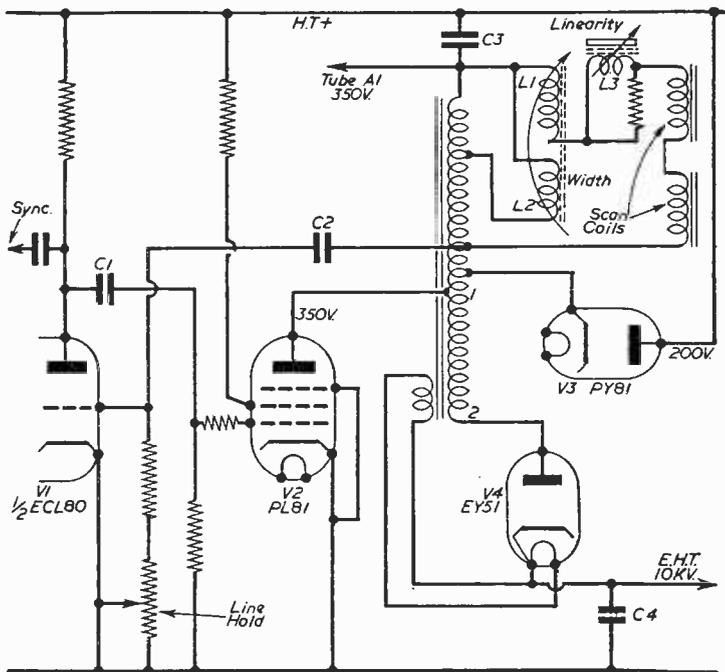

Fig. 26.—Circuit for line flyback EHT.
**L**INE flyback EHT.—Fig. 26. Although we are only to discuss different methods of obtaining EHT it will do no harm to diagnose briefly the whole circuit in Fig. 26 as it is all tied up with the high voltage supply. The scan coil circuit is coupled back to the grid of the oscillator, V1, by C2; this enables part of the output of V2 to be fed back into the oscillator, V1. This pulse is clipped by the triode V1, its phase is reversed and the output from V1 anode is fed into the grid of V2 through the coupling condenser C1. The frequency of the oscillator is controlled by the sync pulses at the end of each line. These pulses are fed into the anode of V1 thereby enabling the repetition frequency of the timebase to keep in step with the transmitted line frequency of 10.125 c/s. The line transformer is auto-wound. This gives it much greater efficiency than if it were a double wound type. The output of V2 is passed through the auto transformer to feed the scan coils.